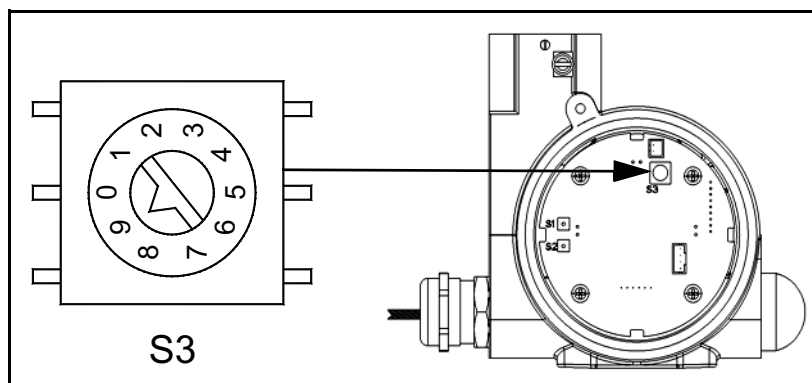

Figure 13: Setting Switch S3
Two buttons (**S1** and **S2**) and one rotary switch (**S3**) are located on the circuit board. Button **S1** is used to calibrate the 11.3% RH value with a lithium chloride salt solution, while button **S2** is used to calibrate the 75.4% RH value with a sodium chloride salt solution. Switch **S3** is set to position 9 for calibration mode (see Figure 13 below).
3. If the meter reading is stable at 5.80 mA (or 11.3% on a display), press **S1** for at least one second. This assigns the 11.3% RH value. If only the low RH calibration will be performed, return Switch S3 to position 0 (see Figure 13 on page 16). Otherwise, continue to the next section to calibrate the high RH reading.
3. If the meter reading is stable at 16 mA (or 75.4% on a display), press **S2** for at least one second. This assigns the 75.4% RH value. Return Switch S3 to position 0 (see Figure 13 on page 16).